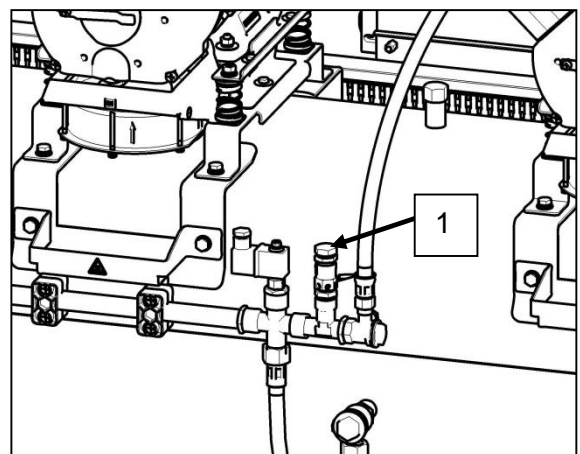

Fig. 15
The pressure relief valve automatically begins to vent air from the system if the pressure in the compressed air circuit exceeds its pre-set value. The pressure relief valve (1) closes as the pressure drops. (Fig. 15)